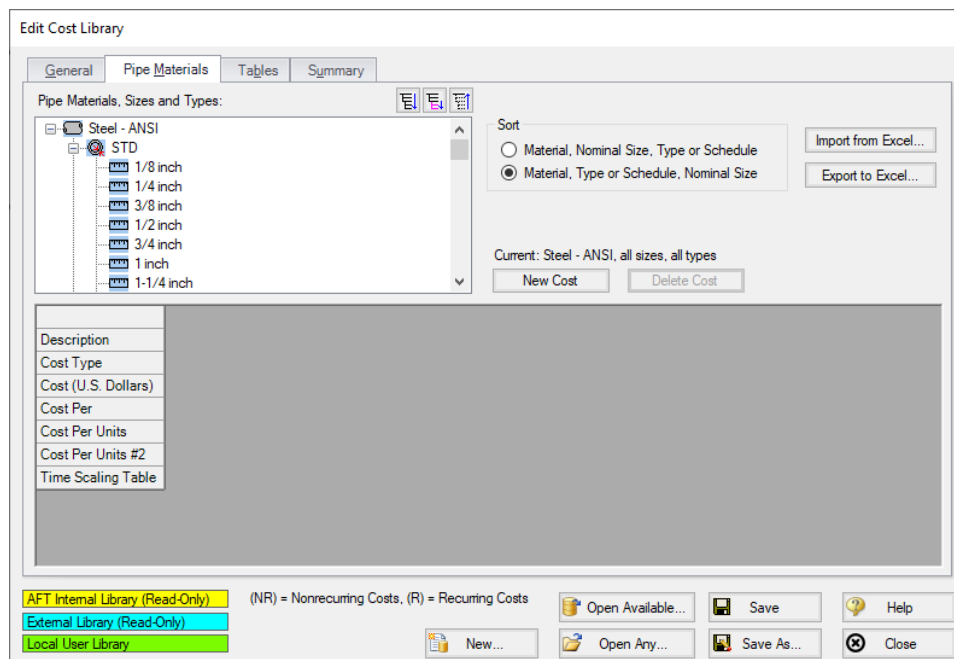

Figure 9: Pipe Materials tab in the Cost Library window showing the available STD sizes
6. Expand the **Steel - ANSI** list, then expand the **STD** list (Figure 9).
If a size from the list is selected, the hydraulic diameter is displayed, along with a summary of the material, size, and type. The New Cost button will also become active (Figure 9). There are a few methods available when adding the pipe costs. We could individually add the Material and Installation costs for each pipe size by selecting each size from the pipe materials list, then using the New Cost button to add these costs to the table individually. Alternatively, the pipe costs can be entered into a template in Excel, then imported to the Cost Library all at once.